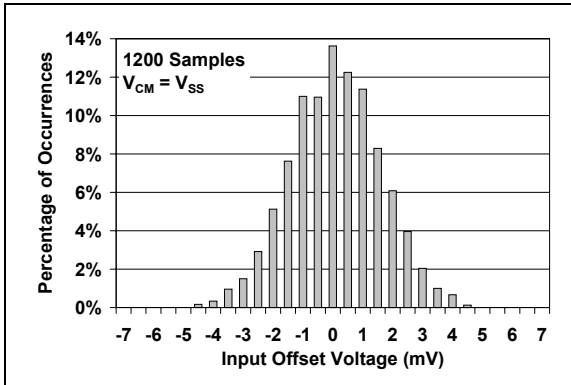

**FIGURE 1-3:** AC and DC Test Circuit for the Push-Pull Output Comparators.
**Electrical Specifications:** Unless otherwise indicated,  $V_{DD} = +1.6V$  to  $+5.5V$ ,  $V_{SS} = GND$ ,  $T_A = +25^{\circ}C$ ,  $V_{IN+} = V_{DD}/2$ ,  $V_{IN-} = V_{SS}$ , and  $R_L = 100$  k $\Omega$  to  $V_{DD}/2$  (Refer to Figure 1-3).
**Electrical Specifications:** Unless otherwise indicated,  $V_{DD} = +1.6V$  to  $+5.5V$ ,  $V_{SS} = GND$ ,  $T_A = +25^\circ C$ ,  $V_{IN+} = V_{DD}/2$ , Step = 200 mV, Overdrive = 100 mV, and  $C_L = 36$  pF (Refer to Figure 1-2 and Figure 1-3).